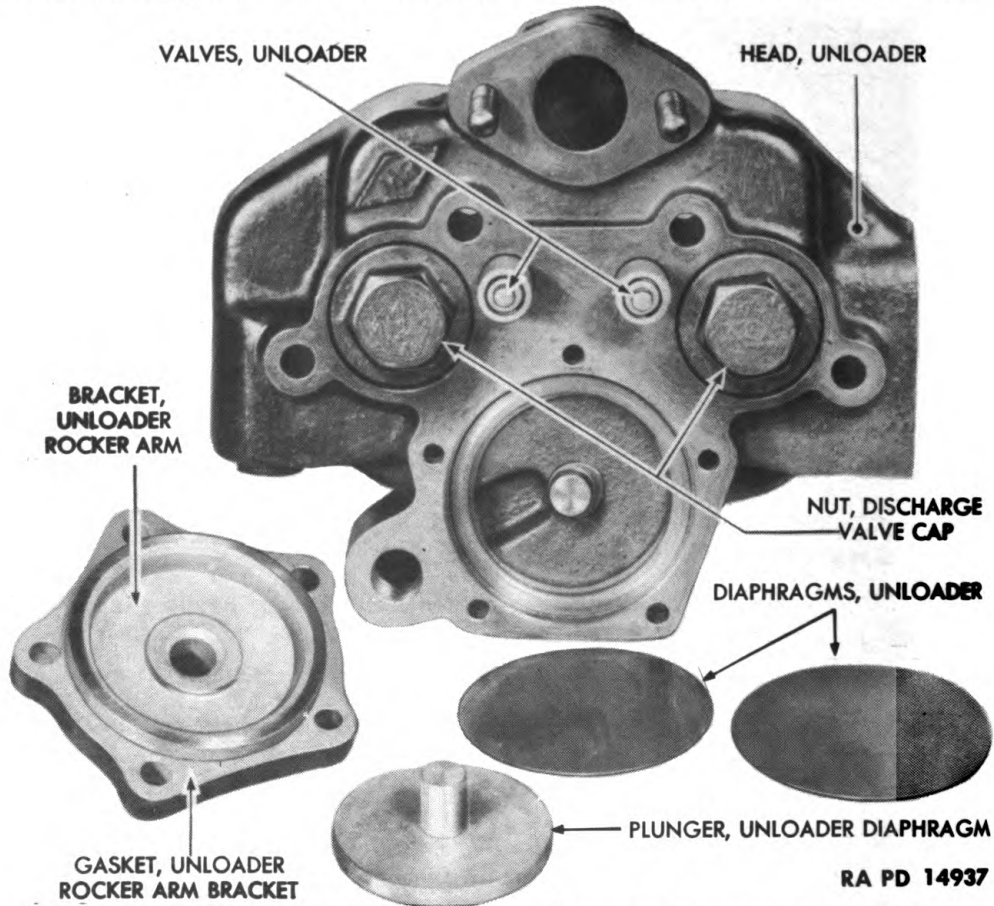

Figure 32—Unloader Diaphragms Removed
(4) REMOVE UNLOADER DIAPHRAGMS (fig. 32).
(b) Lift unloader rocker arm bracket off unloader head and remove unloader rocker arm bracket gasket from bracket (fig. 32).